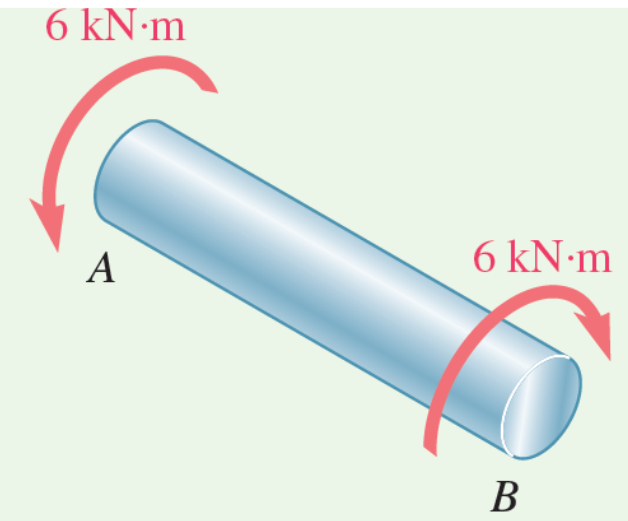

Fig.3.13 Free-body diagram of shaft portion AB
b. Shafts AB and CD. We note that both shafts have the same torque $T = 6 \text{ kN} \cdot \text{m}$ (Fig. 3.13). Denoting the radius of the shafts by c and knowing that $\tau_{all} = 65 \text{ MPa}$, we write